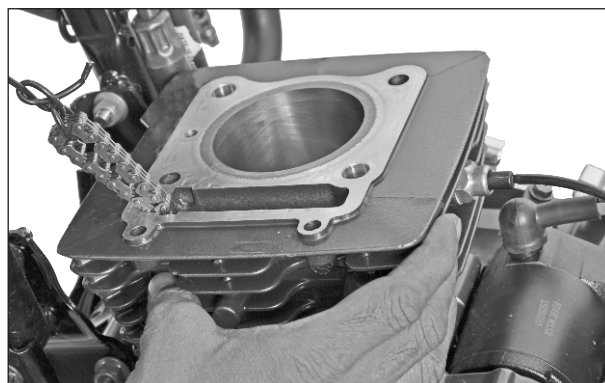

Fig. 3.80
- Gently pull out the cylinder block holding the connecting rod by hand to avoid any damage to the piston assembly and crankcase. (Fig. 3.80)